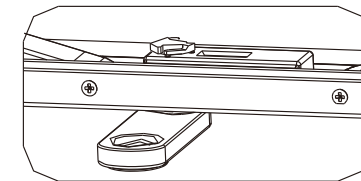

Figure 3-1
1. According to figure 3-1 and 3-2, following the steps to close the screen.